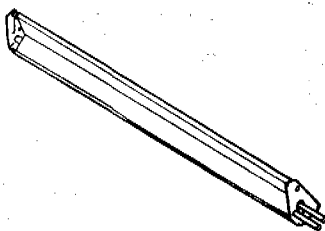

Fig. 4-4-26
10. The cutter unit is illustrated in Fig. 4-4-26.